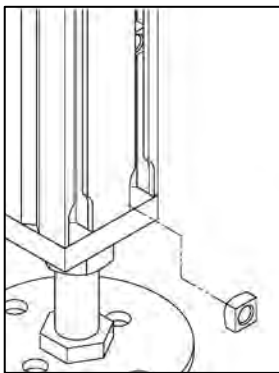

Figure 1
a. Insert two Square Nuts into each leg's channel from the base where the channel has been routed (**Figure 1**).